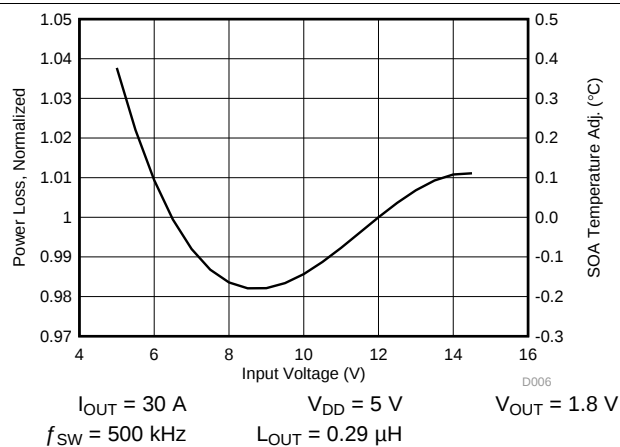

Figure 9. Normalized Power Loss vs Input Voltage
- Normalized Power Loss for input voltage ≈ 0.99 (Figure 9)
- SOA adjustment for input voltage $\approx -0.09^\circ\text{C}$ (Figure 9)